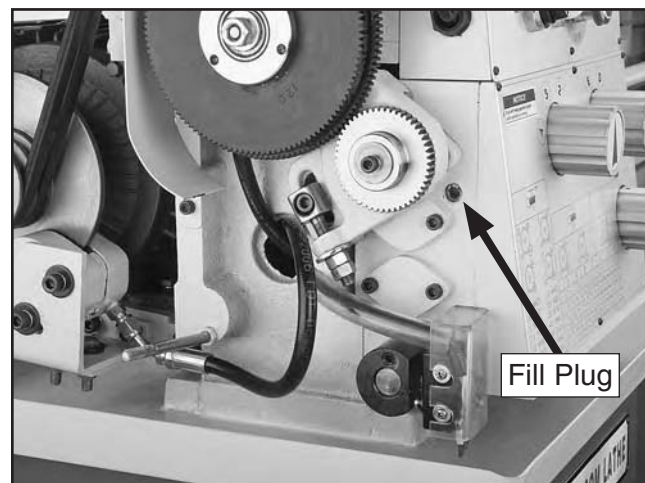

Figure 104. Location of quick change gearbox fill plug.
To add oil to the quick change gearbox, you will need to remove the headstock left cover to access the fill plug, then use an 8mm hex wrench to remove it (see **Figure 104**).
5. Remove the left headstock cover, then remove the gearbox fill plug (see **Figure 104** above for the location). This will allow the oil to drain freely.